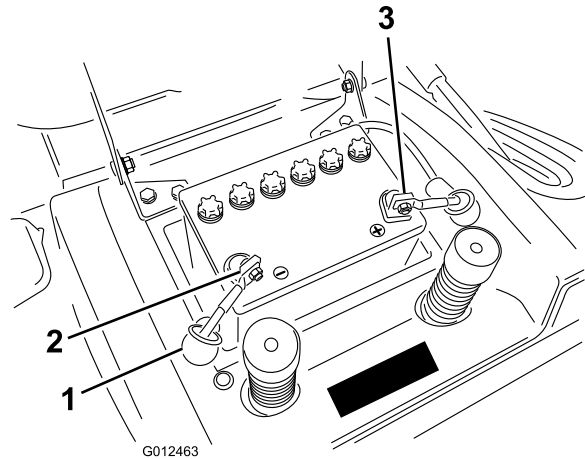

Figure 33
7. Disconnect the negative (black) ground cable from the battery post (Figure 33).
9. Disconnect the positive (red) cable from the battery post (Figure 33).
1. Place the battery into the chassis with the battery posts toward the rear of the machine (Figure 33).
- Using the bolt and wing nut, connect the positive (red) cable to the positive (+) battery post (Figure 33). Slide the rubber cover over the battery post.
- Using the bolt and wing nut, connect the negative (black) cable to the negative (–) battery post (Figure 33). Slide the rubber cover over the battery post.